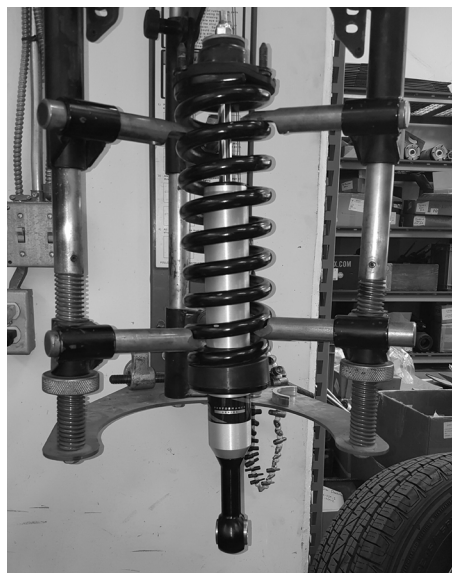

Fig. 8
1. Install Performance Series coil-over into OEM spring and secure with stock spring hardware. Note: You must use the FOX supplied nut on the top of the shaft - Torque this nut to 20 ft-lbs. (Fig 8)